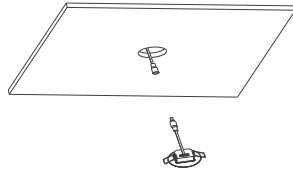

Figure 3-2
2. Cut a hole on the ceiling with 2 - 2 3/8" diameter, wire the indicator cord to the inverter within the junction box (provided by others) and plug in the quick connector (Figure 3-2).